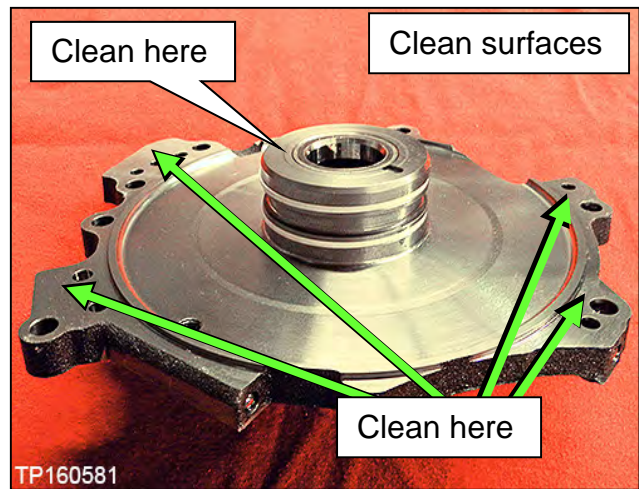

Figure 137
- a. Clean the dummy cover surfaces that contact the CVT case and thrust bearing (Figure 137).